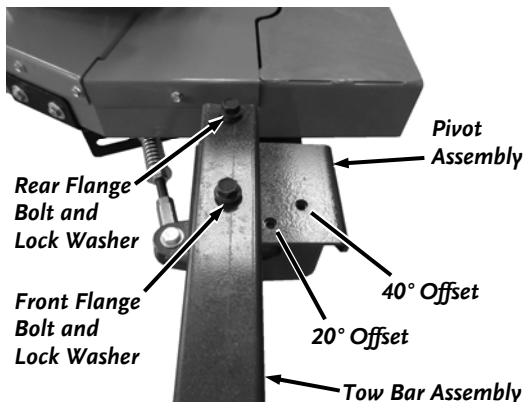

Figure 14
2. Remove the front Bolt using a 9/16" Wrench (**Figure 14**).